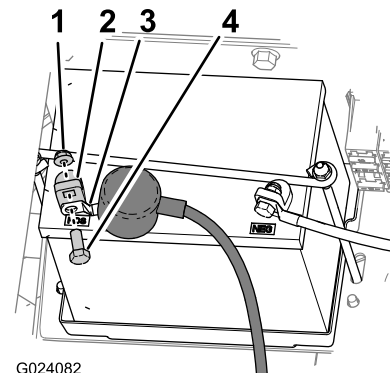

Figure 4
5. Slide back the insulator cover and remove the bolt and nut that secures the terminal of the positive-battery cable to the positive post of the battery. (Figure 4).